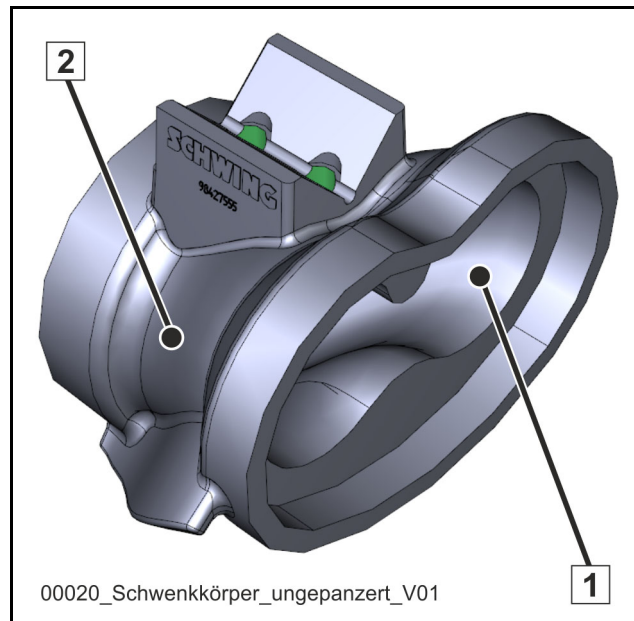

Fig. 341 Unarmoured swivel head (rock)
- unarmoured swivel head, see **(Fig. 341)**.
Caption (Fig. 341)